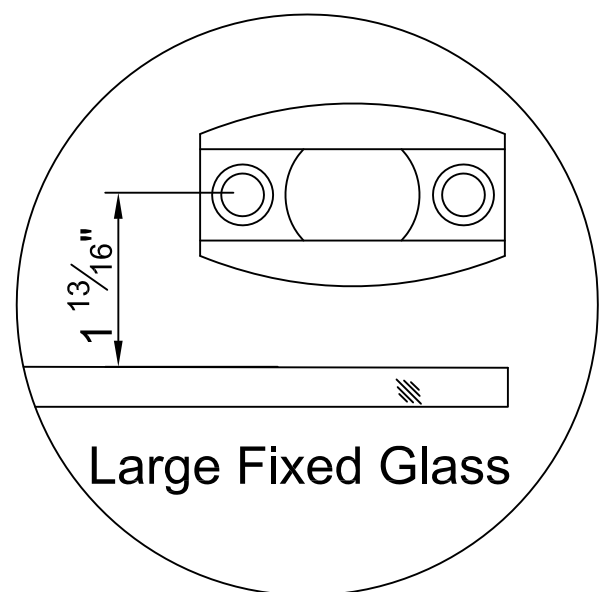

Fig. 17
17. Position the Sliding Door Track Divider (8) into position as seen in Fig.17 and mark the 2 shower base hole positions.
See Fig.17 for details.